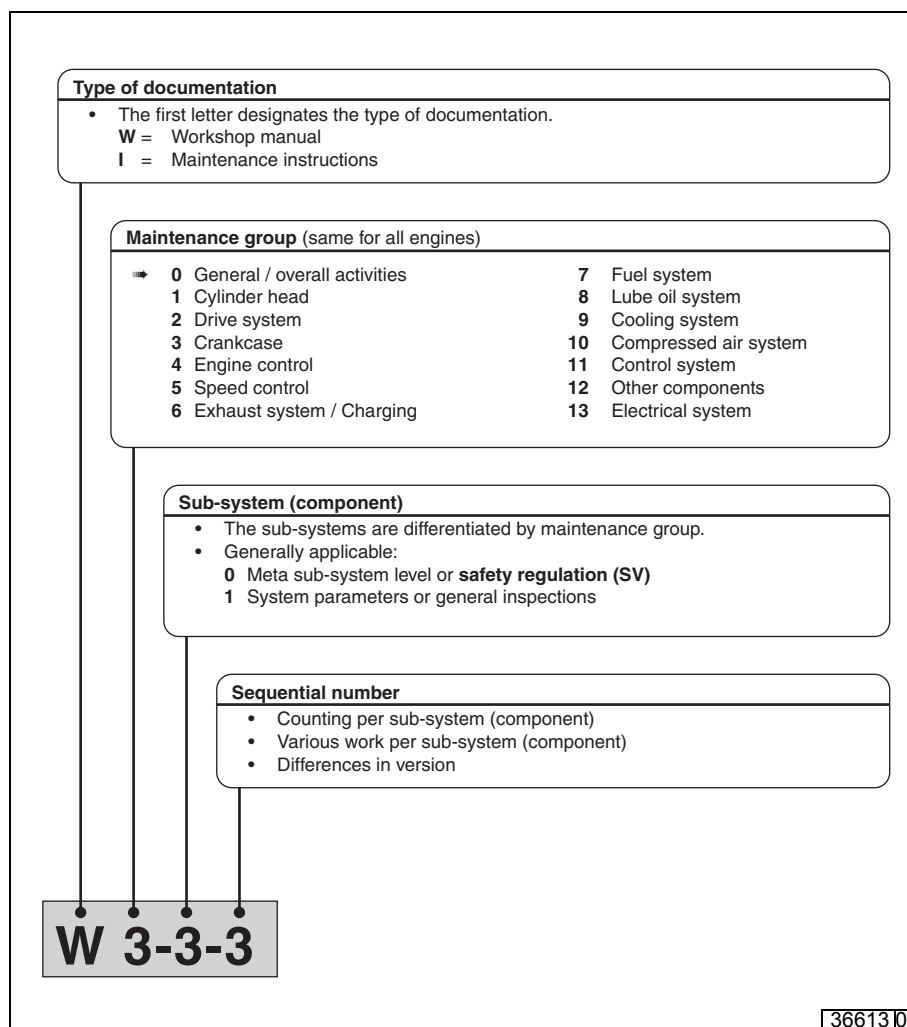

Fig. 1 Numbering of work cards
- Please refer to Fig. 1 for an explanation on how the work cards are numbered.